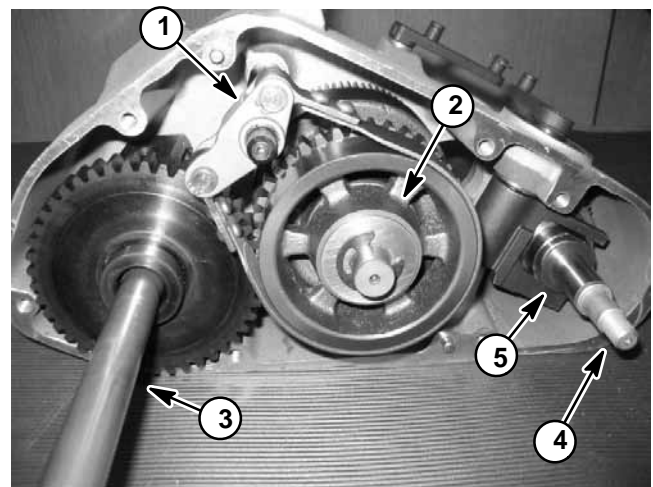

Figure 23
6. Pull gearbox cover from gearbox base taking care not to dislodge shafts from base. Locate thrust washer that fits on cover end of clutch shaft (Fig. 23). Remove and discard gasket.